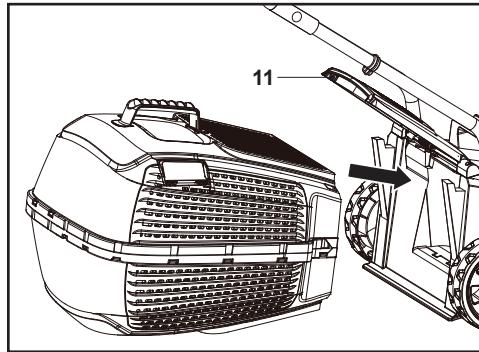

Fig. 5
4. Before you fit the grass box onto the mower you must ensure that the motor is switched off and the blade is not rotating. The grass box must be attached to the two hooks on the mower. Open the grass deflector (11) with one hand and attach the grass box with the other hand as shown in Fig. 5. The grass deflector is held against the grass box by a spring.